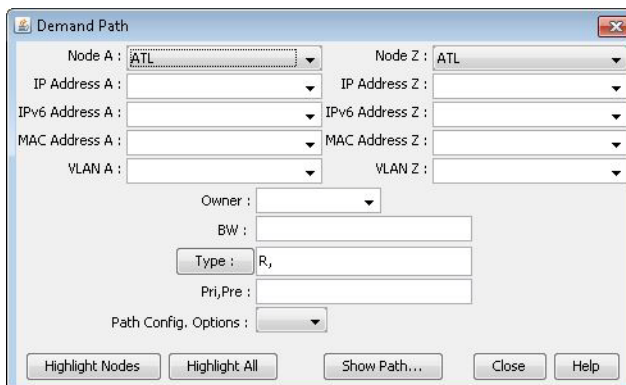

Figure 47: Demand Path Window
4. For an ATM network, you can additionally specify the **Quality of Service** by clicking on the "**Type**" button and then selecting the desired radio button (**CBR**, **RT**, **NRT**, and so on.). For ATM, if you specify a **BW** value (for example "2M") in the demand path options in Figure 47, the Console and Map will indicate whether your demand fails to be placed because of insufficient available bandwidth.